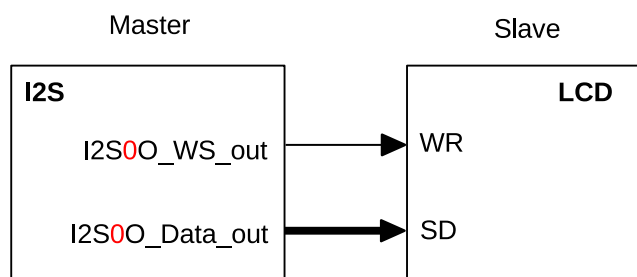

Figure 26-12. LCD Master Transmitting Mode
As shown in Figure 26-12, LCD WR signal is connected to I2S WS signal. The data width can be set to 8/16/24 bits (parallel), depending on the configuration of `I2S_TX_BITS_MOD[5:0]`.
2. Configure signal pins according to Table 151 and Figure 26-12.